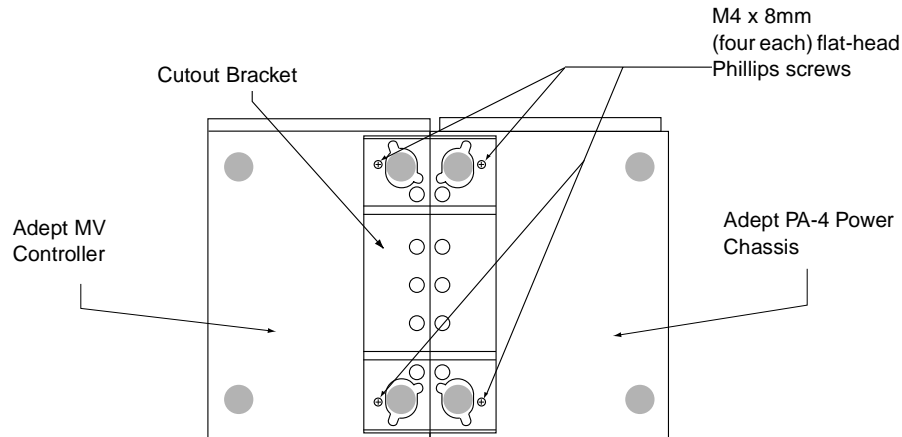

Figure 4-5. Joining the Power Chassis and Controller (Bottom View)
3. Place the bracket over the feet of the units as shown in Figure 4-5.
4. Install the four M4 x 8 mm flat-head screws in the holes indicated in Figure 4-5 to secure the brackets.